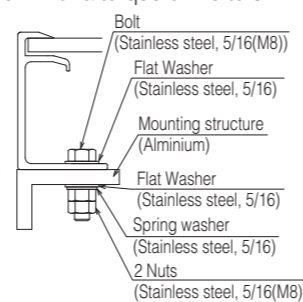

Fig. 1 Module mounting
- Use spring washers and flat washers to fasten the PV module as shown in figure 1.